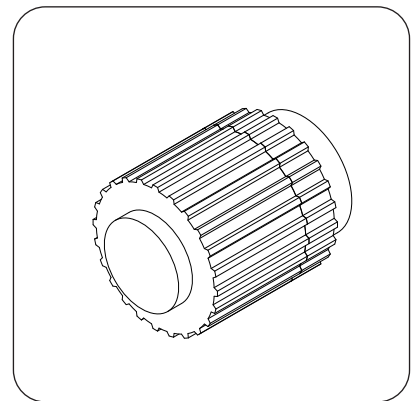
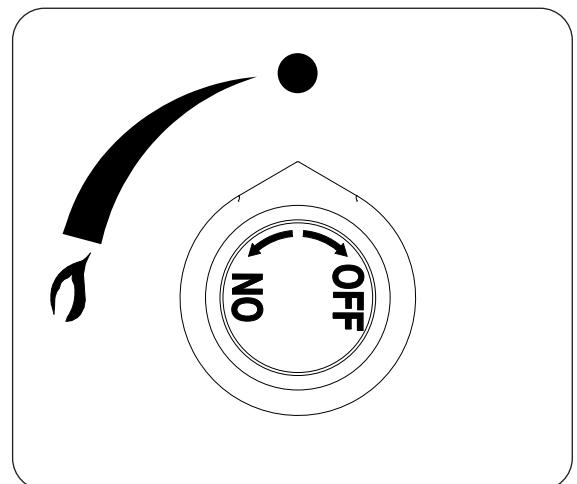

Fig. 31-1 Igniter button detail
Fig. 31-2 Control knob detail
2. Locate the control panel on the side of the unit (refer to the IDENTIFICATION PARTS LIST if needed), and identify the igniter button (Fig. 31-1) and gas control knob (Fig. 31-2). Ensure the gas control knob is in the OFF position before beginning the lighting sequence.
To extinguish your gas burner, turn the gas control knob clockwise to the **OFF** position (see Fig. 31-2). Be sure the control knob is turned fully off to avoid any gas leakage.